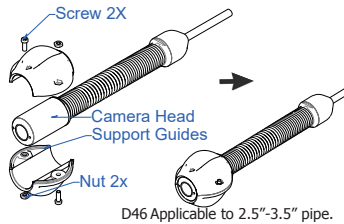

Figure 9. Install 46 Support Guides
a. Install 46 support guides. (Figure 9.)